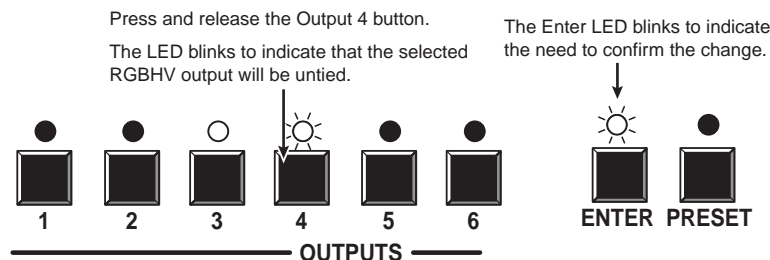

Figure 3-19 — Deselect the output
4. Press and release the output 4 button (figure 3-19).